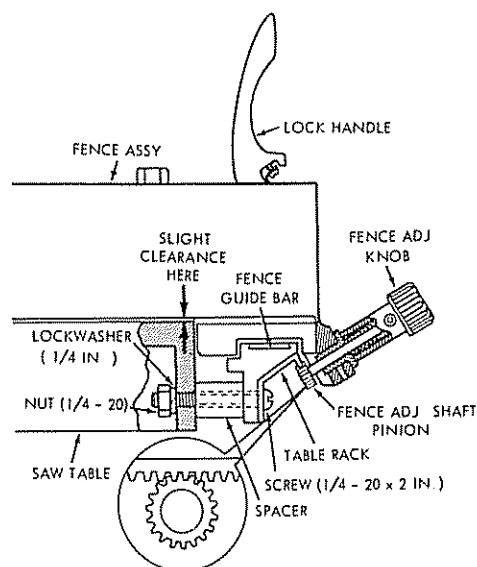
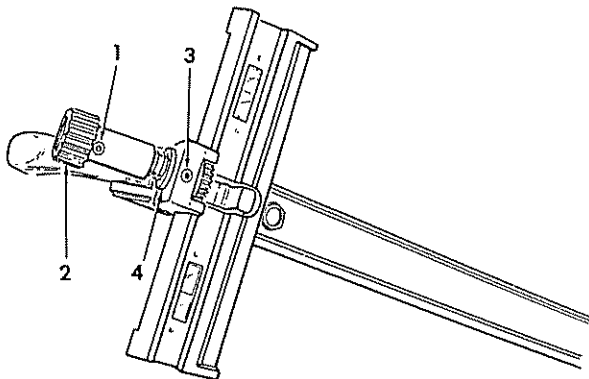

Figure 21
Figure 22
- Check for correct engagement (mesh) of teeth on fence adjusting shaft pinion with the gear teeth in lower edge of rack (See figure 21.) The pinion should be adjusted up or down so that
gear teeth are in full contact lengthwise and meshed as far as possible, just short of binding. This adjustment is made as follows: Push the fence adjusting knob all the way down, and look underneath the rack to determine if the pinion and rack teeth are aligned. (See figure 21.) If the pinion extends too far (or not far enough) loosen the set screw (1, figure 22) with a 5/32-inch hex-L wrench and slide the knob assembly on the pinion shaft (up or down) to achieve proper alignment. Tighten the set screw (1, figure 22).
- (2) Adjust gear mesh (depth of tooth contact) by loosening the set screw (3, figure 22) with a 5/32-inch hex-L wrench and rotate the eccentric (4, figure 22) until proper mesh is obtained. Tighten the set screw after adjusting. Check for proper operation at various points along the rack.